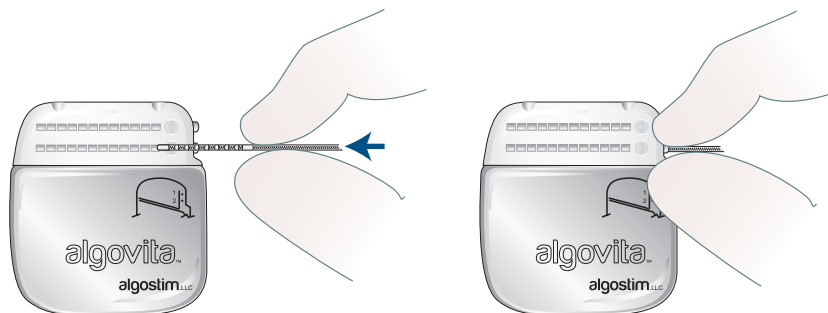

Figure 8. Grasp near setscrew ring.
- c. Grasp the lead or extension near the setscrew ring (*Figure 8*).